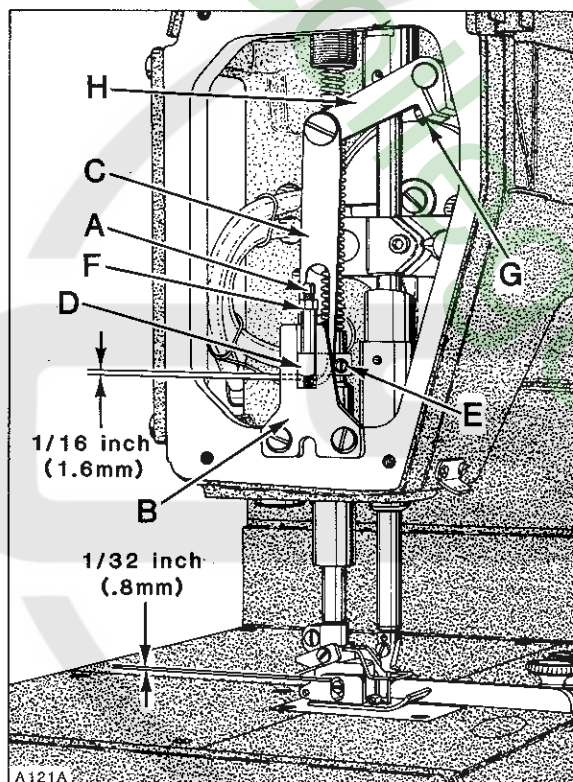
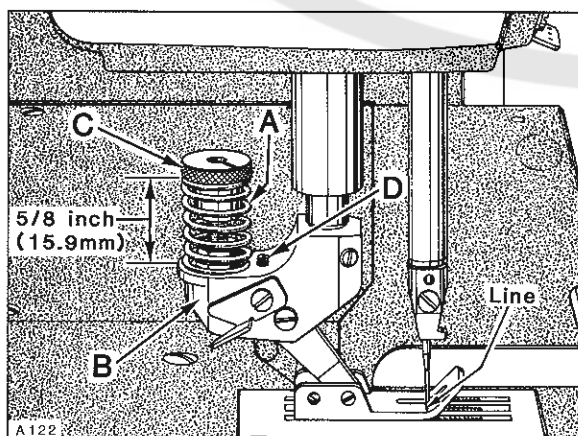

Fig. 19
Fig. 20
With needle bar at bottom of stroke and presser foot resting squarely on throat plate, there should be minimum clearance of 1/64 inch (0.4mm) between the bottom of screw (A, Fig. 19) and bottom of slot in presser bar guide plate (B). There should also be 1/16 inch (1.6mm) clearance between bottom of slot in lifter lever link (C) and bottom of presser bar guide (D) when foot lifter lever is released. If adjustment is required, proceed as follows:
With needle bar at bottom of stroke and presser foot resting on throat plate, there should be 1/32 inch (.8mm) clearance between top of screw and top of slot in presser foot as shown in Figure 19. There should be 1/16 inch (1.6mm) clearance between bottom of slot in lifter lever link (C) and bottom of presser bar guide (D) when foot lifter lever is released. If adjustment is required, proceed as follows: Loosen nut (F) and turn screw (A) down approximately 1/8 inch (3.2mm) below bottom surface of presser bar guide (D). Back off presser spring regulating screw and loosen screws (E) in presser bar guide (D) so that presser foot is sitting squarely on throat plate and screw (A) is touching the bottom of the presser bar guide plate, then secure screws (E).
With presser foot resting on throat plate and the needle in its lowest position, the distance from top of spring (A, Fig. 20) to top of yoke (B) should be 5/8 inch (15.9mm) and the line stamped across the presser foot bottom should line up with centerline of needle.
As the presser foot is raised, its bottom should move VERY SLIGHTLY towards the rear...1/64 inch (.4mm) maximum. If adjustment is required, proceed as follows: Remove presser spring regulating screw, presser bar spring guide and presser bar spring. Loosen nut (F, Fig. 19) and turn screw (A) down approximately 1/8 inch (3.2mm) below bottom surface of presser bar guide (D). Loosen screws (E) in presser bar guide (D). Adjust spring regulator nut (C, Fig. 20) as required so its lower surface is 5/8 inch (15.9mm) from top of yoke (B) as viewed in Fig. 20. With presser foot resting on throat plate and feed dog down below throat plate, press down on spring regulator nut (C) until the marks in presser foot bottom align with centerline of needle and positioned to keep needle in center of needle slot. Tighten screws (E, Fig. 19) securing presser bar guide to presser bar, ensuring stop screw (A) in presser bar guide is resting on bottom of presser bar guide plate. Replace presser bar spring, presser bar spring guide and presser spring regulating screw. Turn regulating screw down until the top of its threaded portion is level with head casting. Rotate handwheel to position feed below throat plate with presser foot resting on throat plate. Depress presser foot lifter lever to see if presser foot bottom moves SLIGHTLY towards the rear before presser foot begins to lift.
Adjustment can be made by turning stop screw (D, Fig. 20) clockwise to shorten or counterclockwise to lengthen the distance of travel.
Loosen screw (G, Fig. 19) in lifter arm (H) and rotate arm slightly as required to obtain 1/16 inch (1.6mm) clearance between link (C) and guide (D); retighten screw (G), assuring all end play is removed from lifter arm (H).
Purpose of the feeding presser foot is to make top and bottom plies of material feed the same amount without pulling on the bottom ply. Final adjustment may be required to match plies; turning nut (C, Fig. 20) to increase pressure on spring (A) will tend to feed the bottom ply more...decreasing pressure will tend to feed the top ply more.